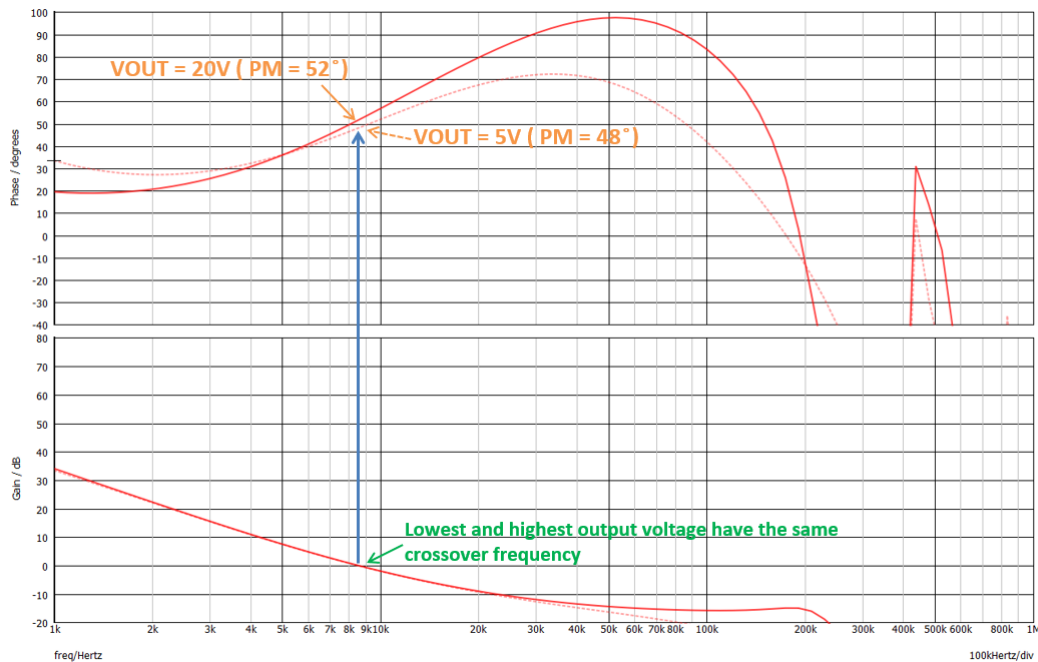

Figure 3-4. Feedback Current Injection Network Control Scheme Bode Plot
- The DC gain of the system loop remains constant throughout the entire typical USB Type-C V_{OUT} range since the bottom resistor is set and fixed to a single component value. Refer to Figure 3-4 for the simulated LM61460-Q1 small signal loop response for the lowest output voltage of 5 V and the highest output voltage of 20 V using this control method. Note that the loop gain response crosses 0 dB at the same frequency for different V_{OUT} voltages so the transient loop response is expected to be similar for all output voltage settings.